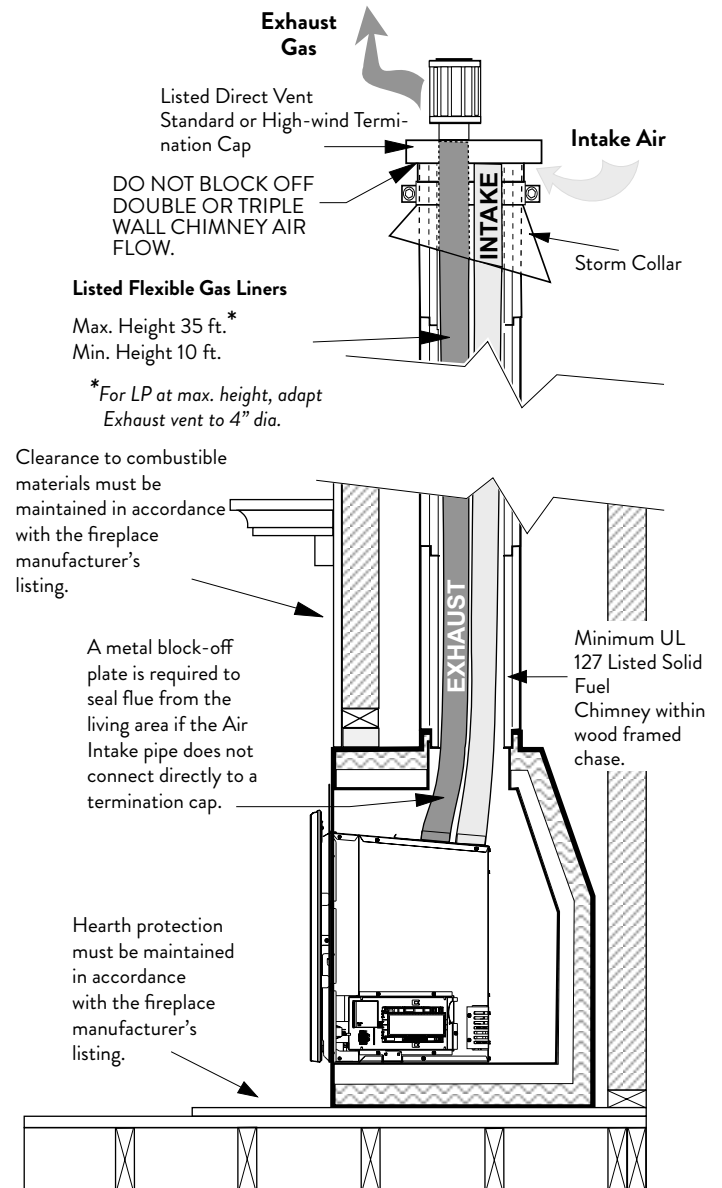

Figure 6.2. Venting through prefabricated fireplace chimney.
**If the intake flex does not extend the full length of the chimney and connect to the unit and the termination cap - A METAL BLOCK OFF PLATE MUST BE CONSTRUCTED AND INSTALLED ABOVE THE UNIT BELOW THE END OF THE INTAKE DUCT (normally at the damper area). See fig. 6.2.**